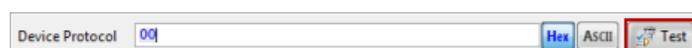

FIG. 50 Test Serial Communication dialog
2. Enter the "x...x" portion of an actual command in the *Device Protocol* text field, and the transport will take care of packaging the command with all other defined fields (header, footer...) before sending it out to the device. This enables the **Test** button in this dialog (FIG. 50):